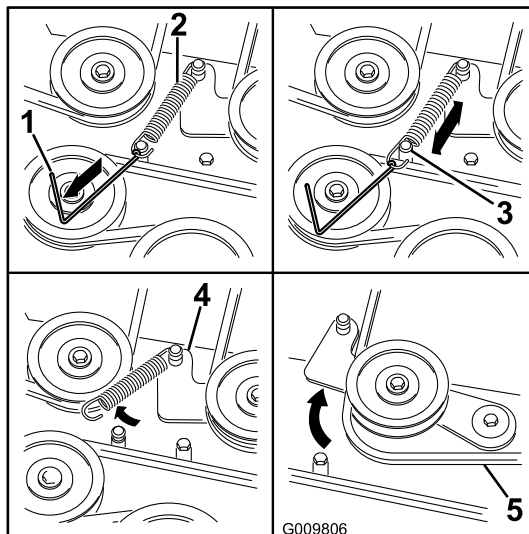

Figure 68
5. Using a spring removal tool, (Toro part no. 92-5771), remove the idler spring from the deck post to remove tension on the idler pulley (Figure 68).
8. Install the new belt around the mower pulleys and the clutch pulley under the engine (Figure 68).
9. Using a spring removal tool, (Toro part no. 92-5771), install the idler spring over the deck post and placing tension on the idler pulley and mower belt (Figure 68).